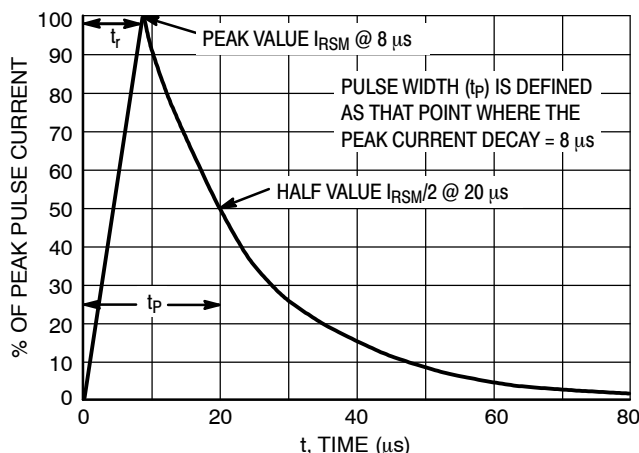

Figure 5. 8 X 20 μ s Pulse Waveform
1. Nonrepetitive current pulse per Figure 5 (Pin 5 to Pin 2).
- Nonrepetitive current pulse per Figure 5 (Pin 5 to Pin 2).
- Nonrepetitive current pulse per Figure 5 (Any I/O Pins).
- Surge current waveform per Figure 5.